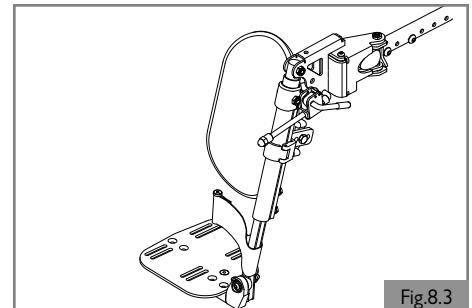

Fig.8.3
1. From the side, place the pivot (D) into the top of the frame tube which guides the hanger into the correct alignment with the locking plate (C) on the front frame tube.
8.3 Elevating legrest (option) (Fig 8.3)